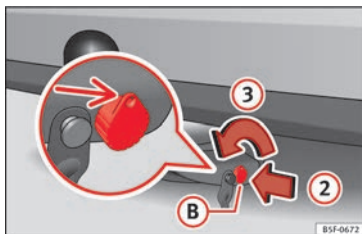

Fig. 234 Releasing the lock
- Insert key (B) into the lock in the direction of arrow (2) » Fig. 234.
- Turn the key in the direction of arrow (3) until the part of the key with the holes is facing upwards.